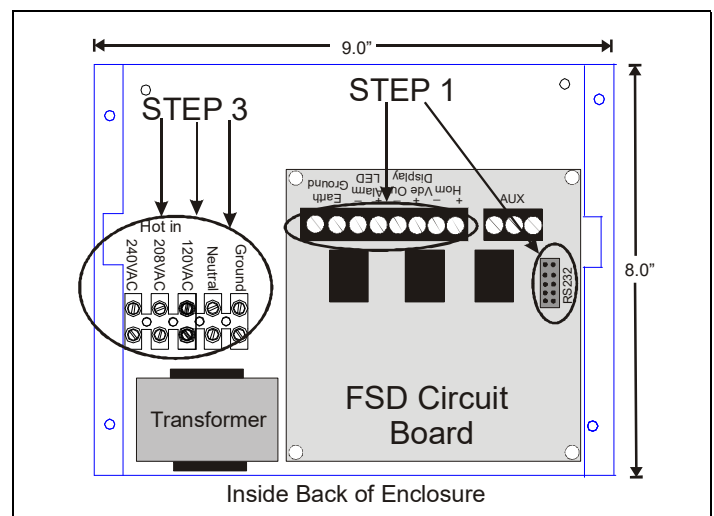

Figure 2 - Inside Back of Enclosure
1. STEP 1: Using the four screws on the front of the mounting plate, unscrew the cover of the FSD and remove, exposing the back of the enclosure. Once the top has been separated from the back of the enclosure, unplug the 8-pin connector and RS232 cable (Step 1 of Figure 2) from the circuit board (P/N 537-1100).
3. STEP 3: Once the unit has been mounted, depending on the voltage input, wire either 120VAC, 208VAC, or 240VAC Hot leg to the corresponding terminal block label. Then wire the Neutral or L2 leg to the terminal block labeled Neutral. Wire Ground to Ground as indicated by Step 3 of Figure 2.